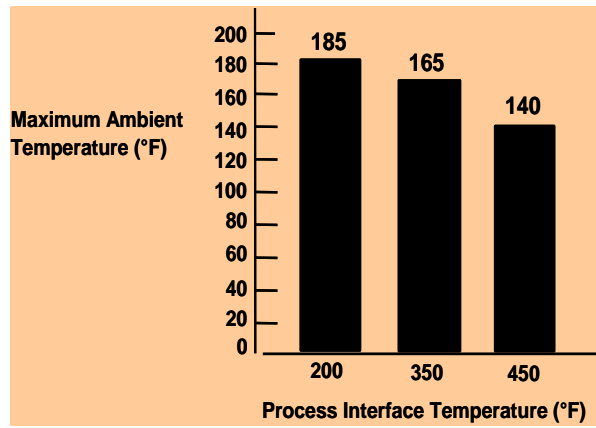

Figure 3- Ambient temperature Limits
- ¹ Ambient Temperature Limit is a function of Process Interface Temperature. (See Figures 3 & 4)